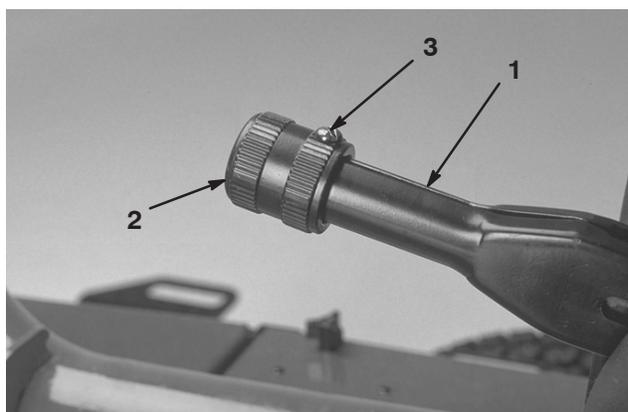

Figure 54
- Loosen the set screw securing the knob to the parking brake lever (Fig. 54).